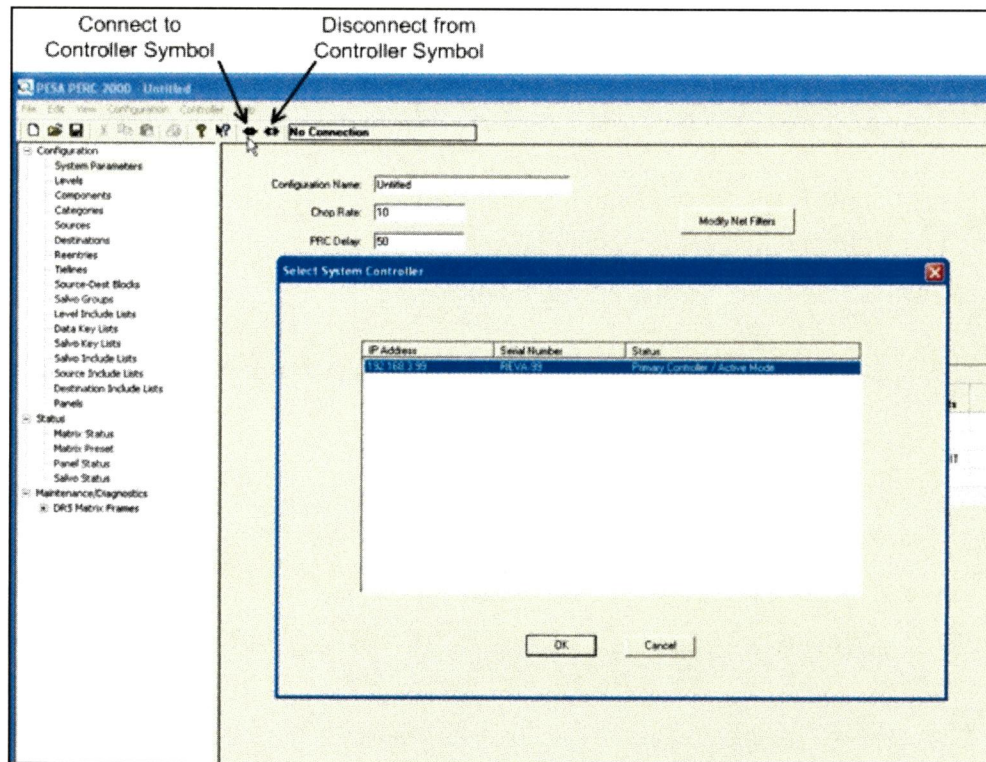

Figure 47. System Controller Selection Window
- ☐ 3. Click on the "Connect to Controller Symbol," Figure 47, to bring up a box with all P2K controllers listed. In most applications there will only be one controller listed. Select the P2K you wish to download the configuration data to from the list and click to activate the connection between the GUI and the controller. Once activated and communication is established, the IP address of the P2K will appear in the box to the right of the connection symbols and the box will be highlighted green to indicate the connection is functional.